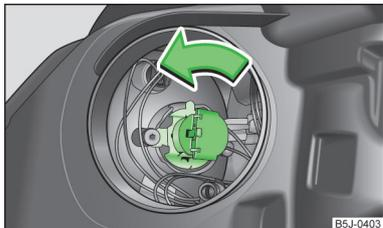

Fig. 157
- Turn the connector with the bulb to the stop in the direction of the arrow » Fig. 157 and remove it.